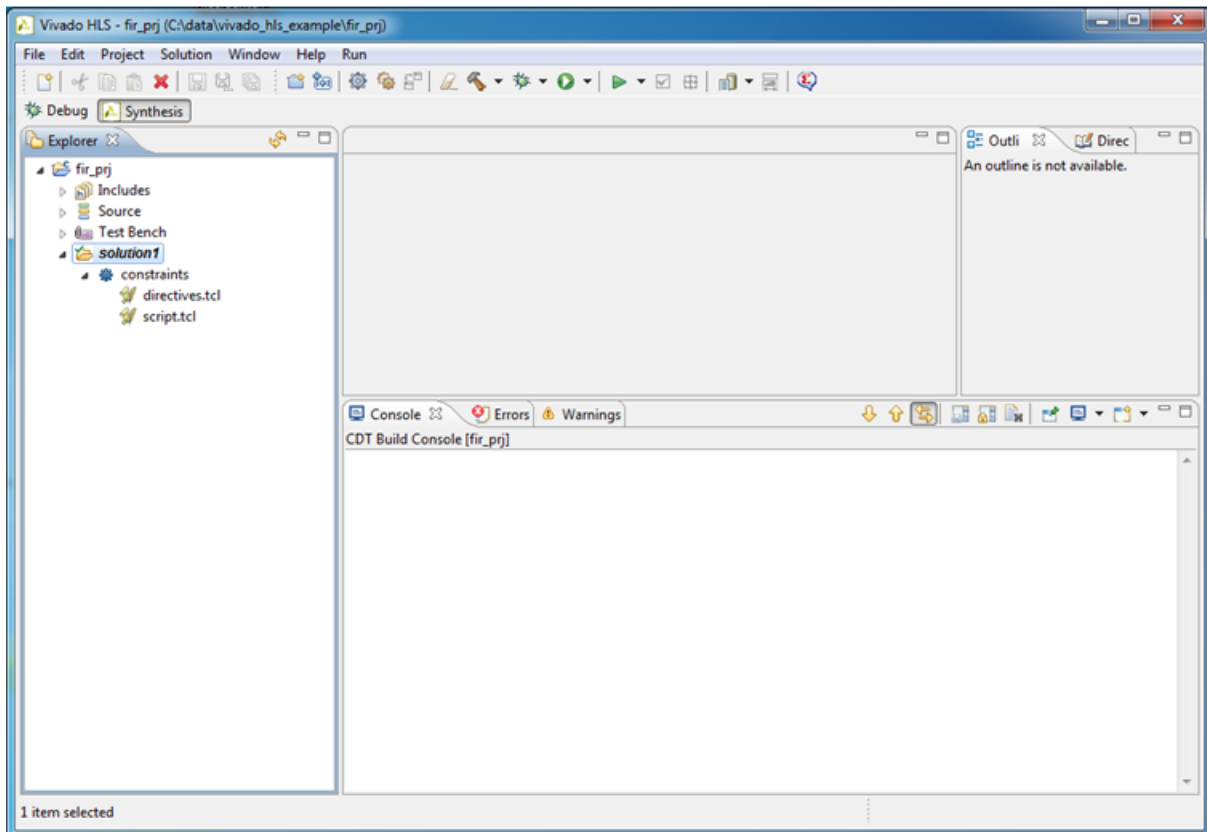

Figure 3-7: Vivado HLS after Project Creation
8. Set the part to `xc7k420tffg1156-1` and click **OK**(Figure 3-7).